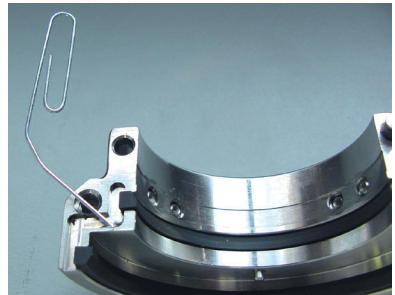

Figure 12
- 4.2 Put one dot of adhesive near the inner corner. See Figure 12.